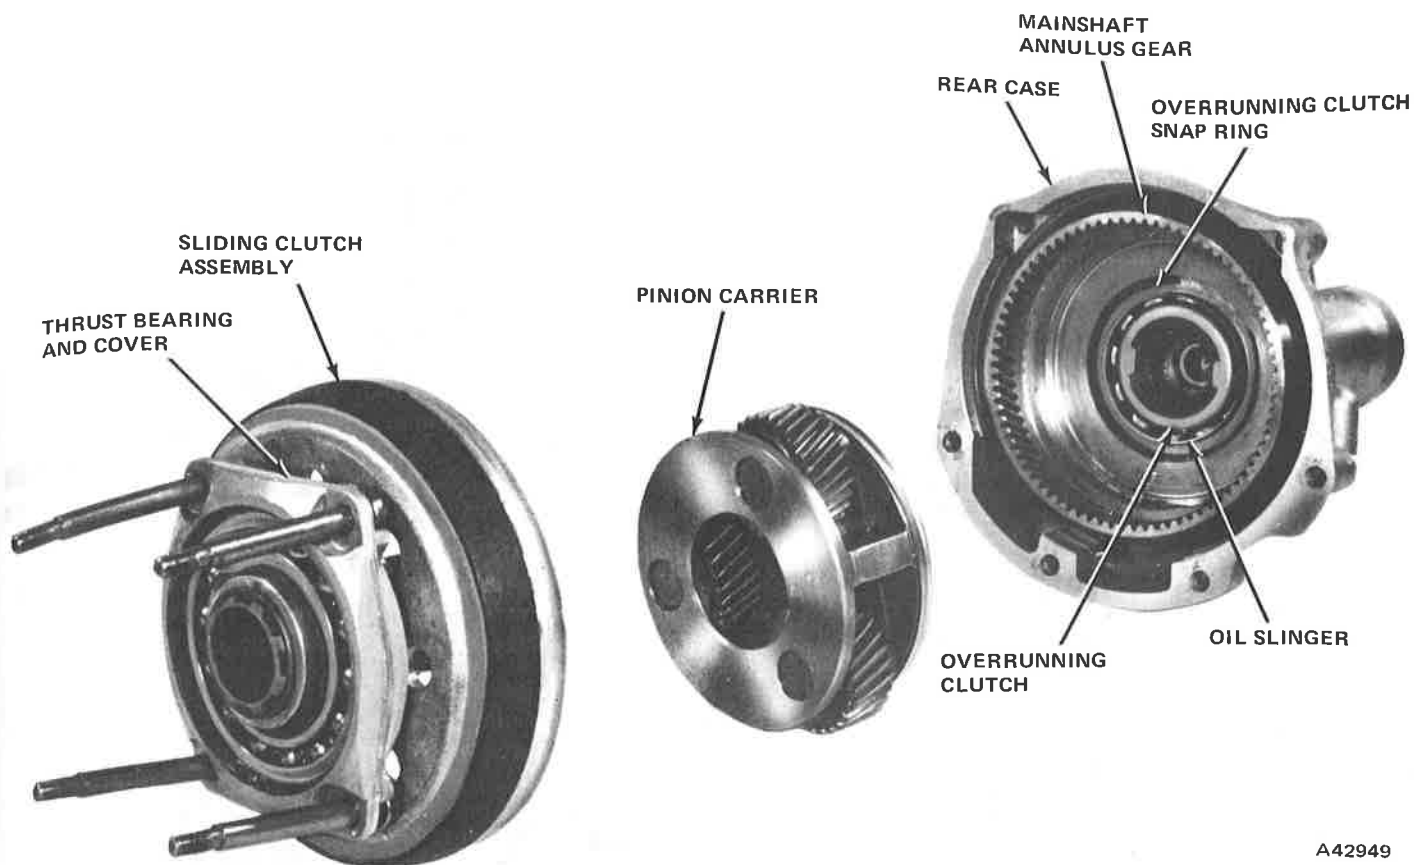

Fig. 6-45 Sliding Clutch Assembly and Pinion Carrier Removal and Installation
(13) Remove sliding clutch, sun gear, and thrust bearing cover assembly from main shaft annulus gear in rear case, and remove pinion carrier assembly from main shaft annulus gear (fig. 6-45).
(14) Remove sun gear snap ring and sliding clutch ring lock and push sun gear out of sliding clutch hub.
(15) Separate thrust bearing and cover from sliding clutch hub with Installer-Remover Tool J-25315 as follows:
(16) Remove thrust bearing snap ring, with small screwdriver or pointed tool, and press bearing from cover using arbor press. Do not remove thrust bearing cover bolts.
(17) Remove overrunning clutch snap ring and remove brass oil slinger (fig. 6-45).
(14) Install sun gear into sliding clutch hub. Install sliding clutch ring lock (sharp edge facing up) and sun gear snap ring. Be sure ring lock and snap ring are fully seated.
(15) Install sliding clutch assembly onto main shaft annulus gear while engaging sun gear in pinion gears. Be sure sliding clutch is seated on annulus and sun gear is fully engaged in pinion gears (fig. 6-45).